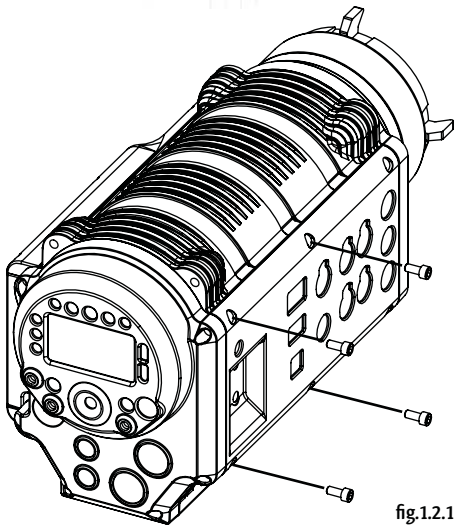

fig.1.2.1
1- With the camera powered down, use the provided 2.5mm allen key to remove four (4) screws from your camera body (see fig.1.2.1). To avoid losing these screws, secure them to the upper right corner of the panel.